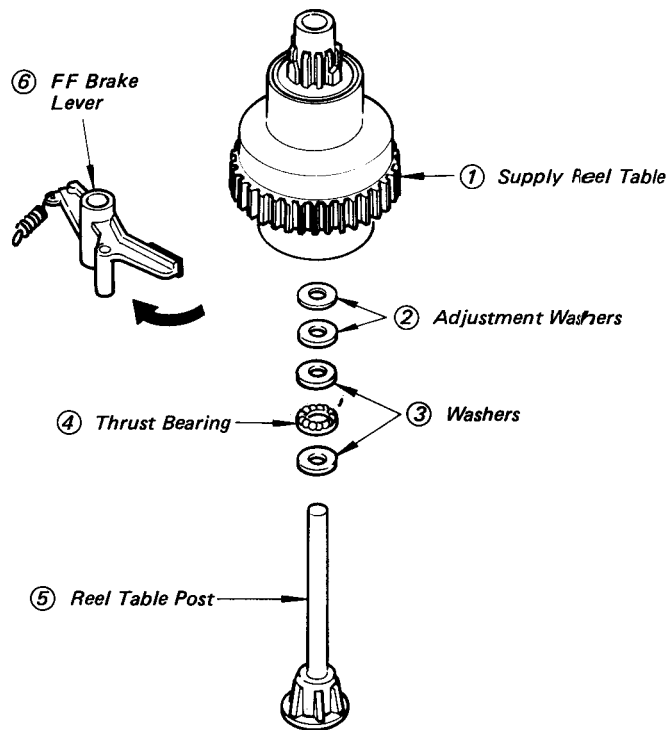

Fig. 5-38 Supply Reel Table Removal
10-2. Adjusting (Refer to Figs. 5-38, 43)
6. Turn and hold the FF brake lever ⑥ in the arrow direction (↻) (see Fig. 5-38).
7. Lift the supply reel table ① straight up for removal.
- CAUTION:** 1. In lifting the supply reel table ①, special care must be exercised not to bend nor break the band brake.
8. Take out any of the adjustment washers ②, washers ③, and thrust bearing ④, if stuck by oil, from the bearing of the supply reel table ①.
9. Wipe the reel table post ⑤ to clean using isopropyl alcohol.
10. Wait for the reel table post ⑤ to dry, and then apply a few drops of oil to it.